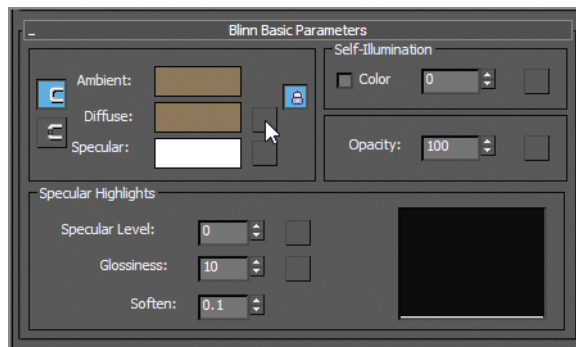

FIGURE 10.6 The shortcut button to add an image or bitmap to your material
1. In the Slate Material Editor, open the Blinn Basic Parameter rollout and click the small gray box next to the Diffuse color swatch, as shown in Figure 10.6.